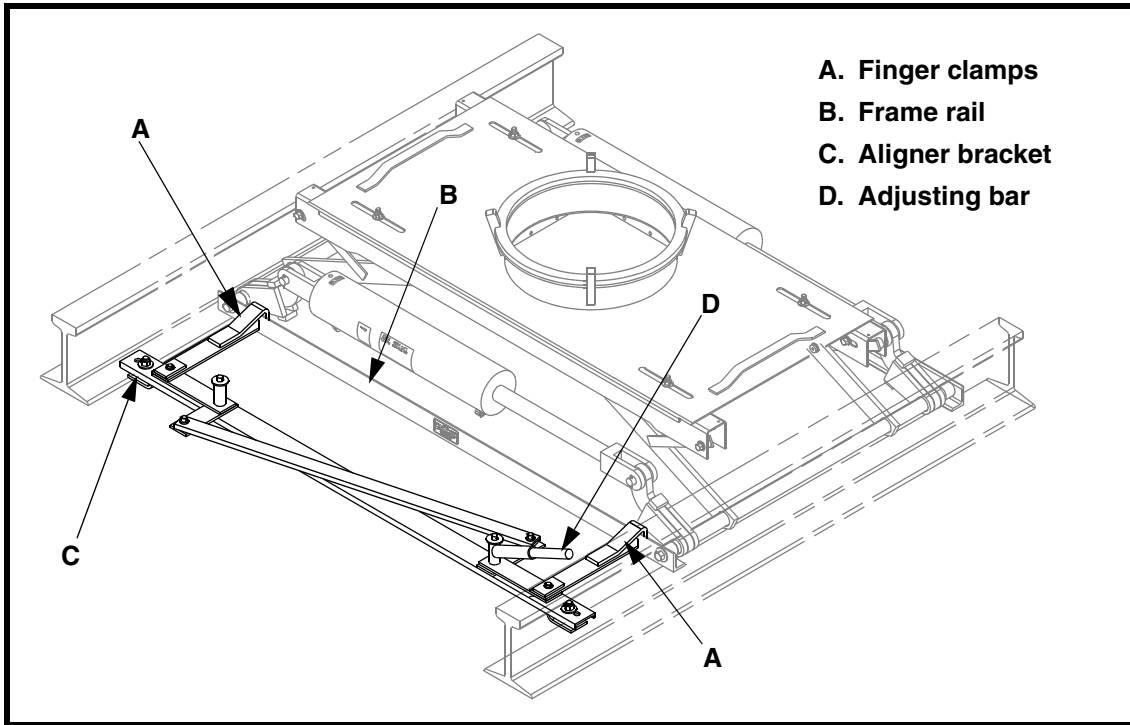

Figure 6. Installing Manual Aligner
1. See Figure 6. Install manual aligner on the most accessible side of the Railcar Connector.
2. Slip finger clamps (A) over frame rail (B) on Railcar Connector.
3. Adjust aligner frame so it is in center of its travel, then clamp aligner brackets (C) to rails.